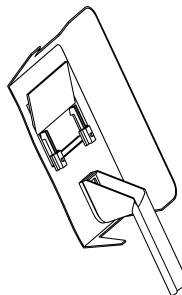

Figure 2 - Clip welding lense into position as shown
- ◆ Clip the welding lense supplied into position as shown in Figure 2 below.